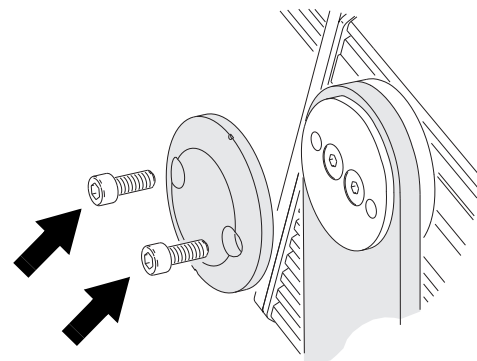

Figure 6: Tilt adjustment
2. See Figure 6. Loosen, *but do not remove*, the tilt lock screws (arrowed). Tilt the fixture to the desired angle and retighten the screws.